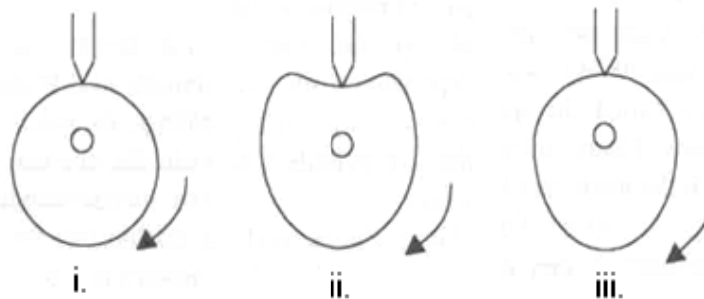

Figure 8: CAMs
- (b) Draw the graph Displacement against Rotation for this CAM if the follower is a point as in **Figure 8**.